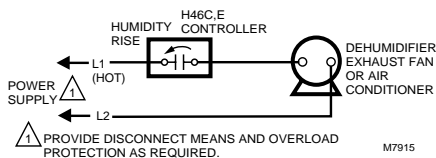

Fig. 4. Typical wiring diagram for H46C,E.
5. Pull the wires from the switch box through the opening in the adapter plate and connect to the H46 leadwires with the solderless connectors provided. See Fig. 4, 5 and 6 for a typical hookup.